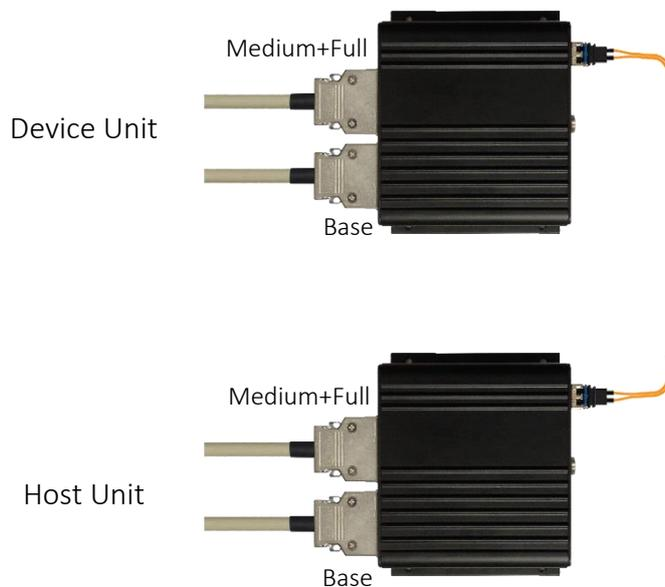

Figure 11 : Fiber cable connectivity
1. Make sure the fiber cable is connected properly, as described in previous section. Please refer to Figure 11 as reference:
2. Connect the Camera link cables, as shown in Figure 11.